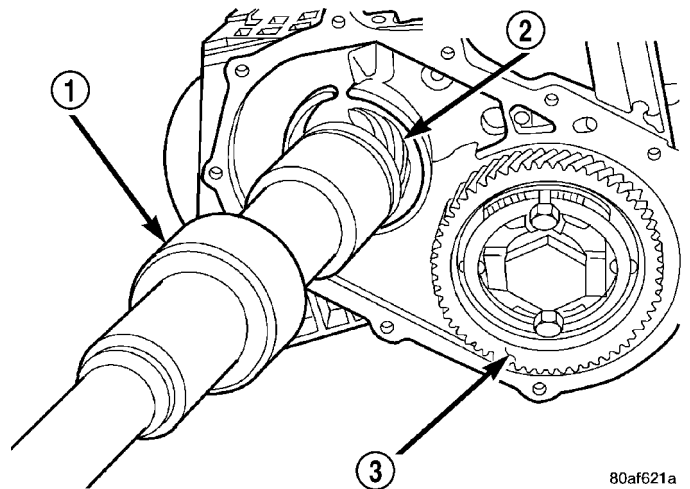

Fig. 65 Remove Transfer Shaft
(44) Using tool 5049A, remove transfer shaft from transaxle (Fig. 65).